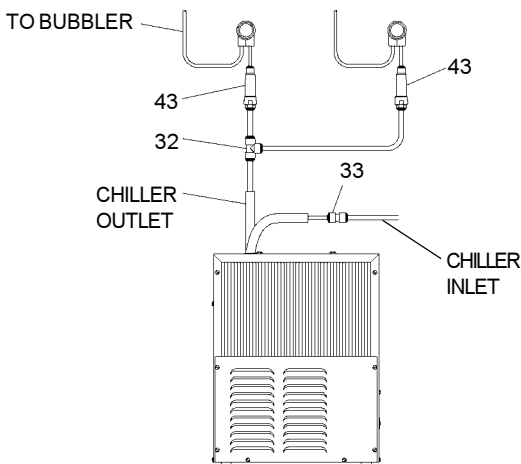

FIG. 7
3. **ERPA MODELS:** Make connection between remote chiller and building supply line. Inlet port is marked on the chiller (1/4" O.D. copper tube). Bend the copper tube (provided) at an appropriate length from chiller to opening in frame. Install a 1/4" x 3/8" union (provided) on the marked chiller inlet port. Connect building supply line to union. (See Figure 7)